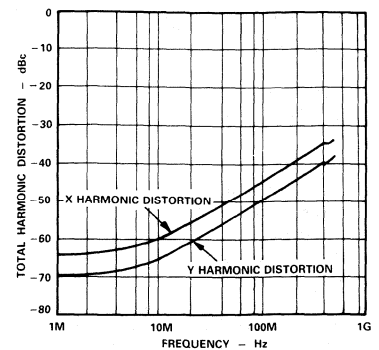

Figure 3. Total Harmonic Distortion vs. Frequency
**Figure 3.** THD data represented in Figure 3 is dominated by the second harmonic, and is generated with 0dBm input on the ac input and +1V on the dc input. For a given amplitude on the ac input, THD is relatively insensitive to changes in the dc input amplitude. Varying the ac input amplitude while maintaining a constant dc input amplitude will affect THD performance.